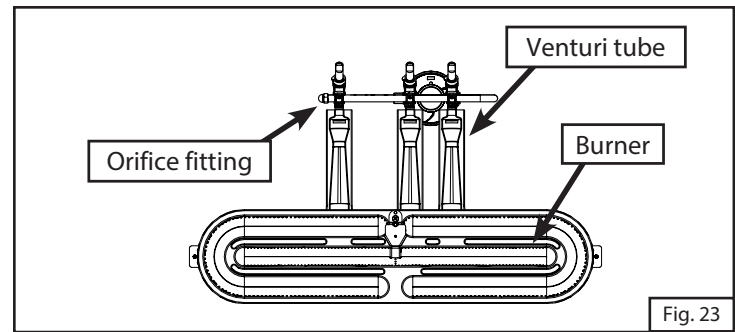

Fig. 23
1. Proper location of the burner with respect to the orifice is important. To verify the proper installation of the Venturi tube. The venturi tube must be located over the orifice fitting. See Fig. 23 (control panel not shown).